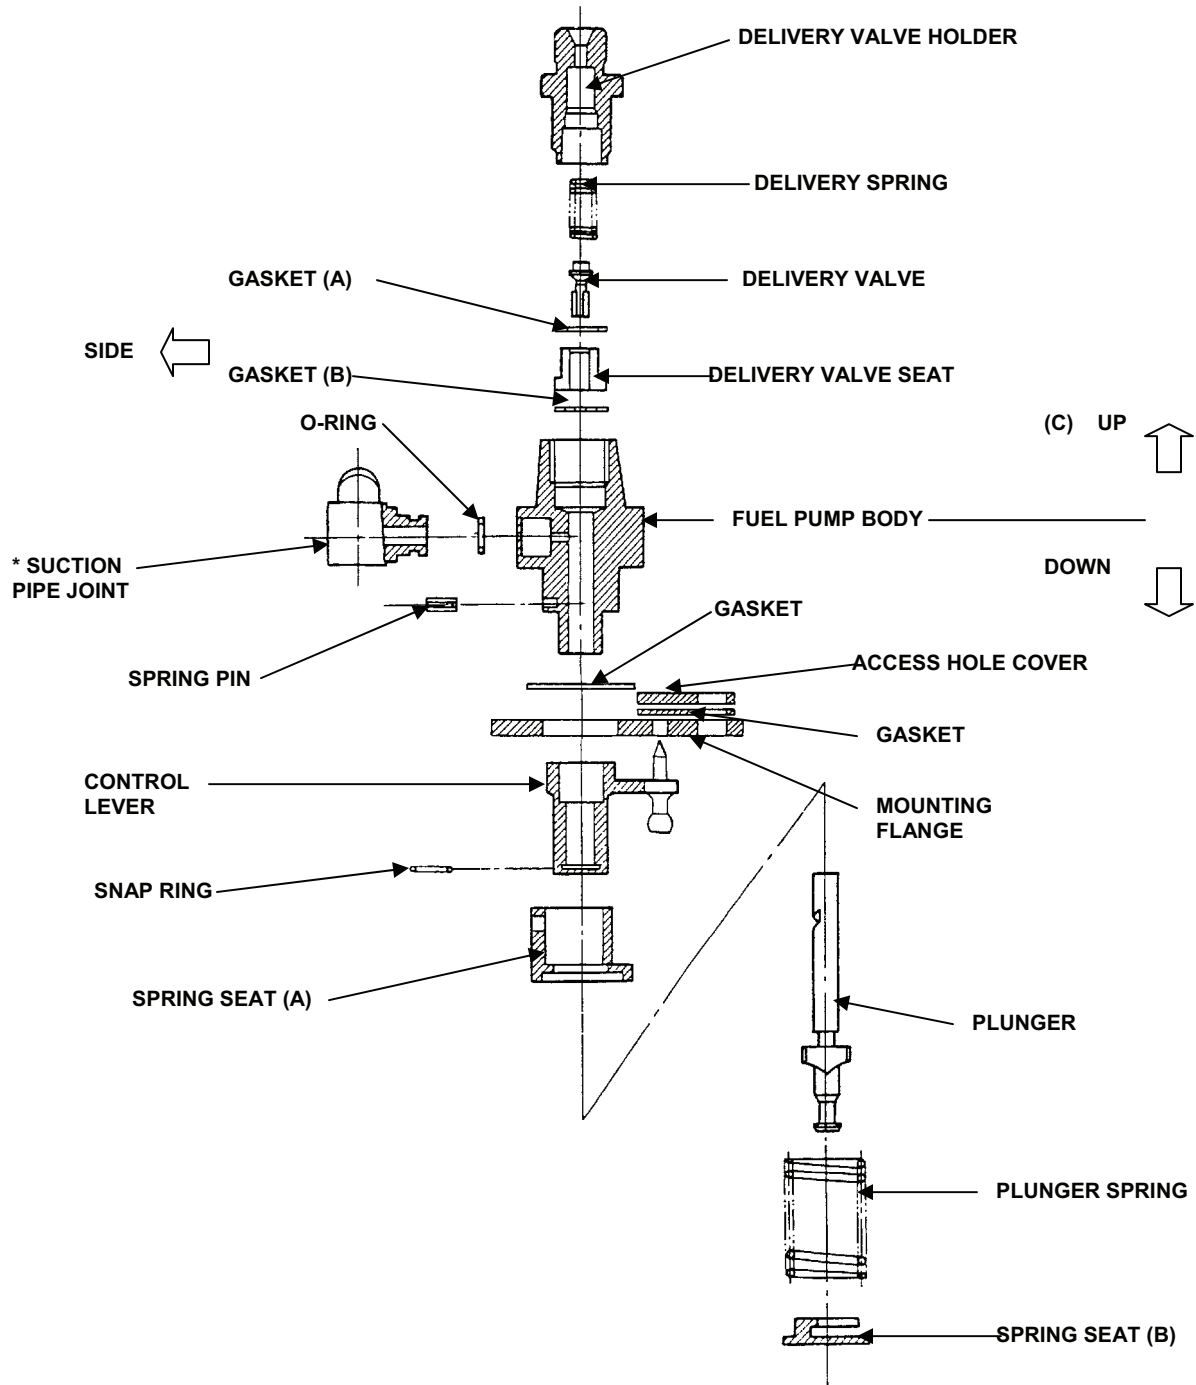

Figure 3. Fuel Pump Disassembly/Assembly.
2. Disassemble and reassemble the fuel pump in the directional order of UP (↑), DOWN (↓), and SIDE (⇐) from the center of the fuel pump (marked C). See Figure 3.
3. Disassemble the fuel pump from the top (UP) as follows: